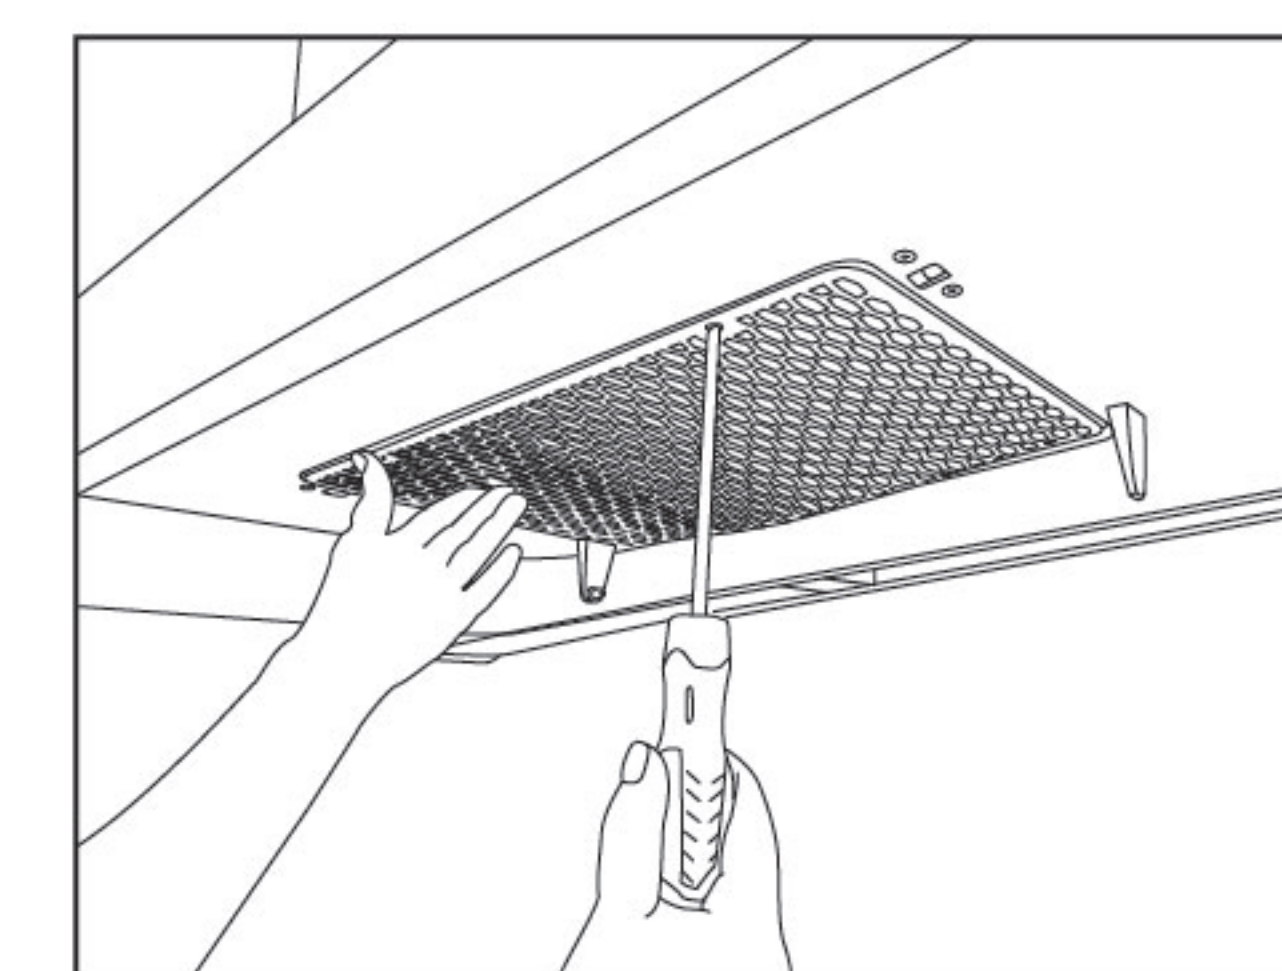
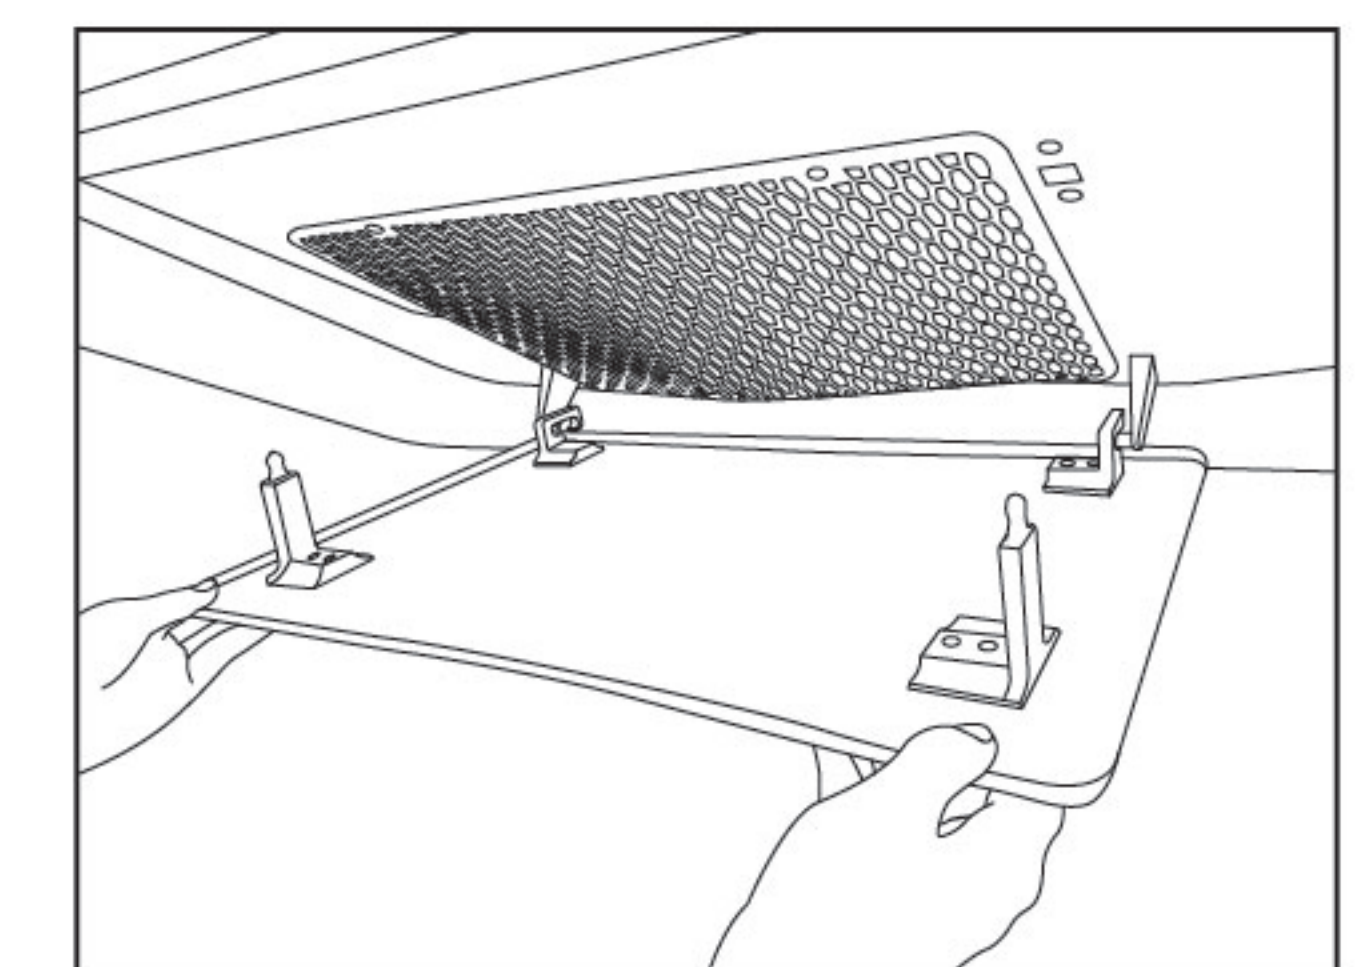
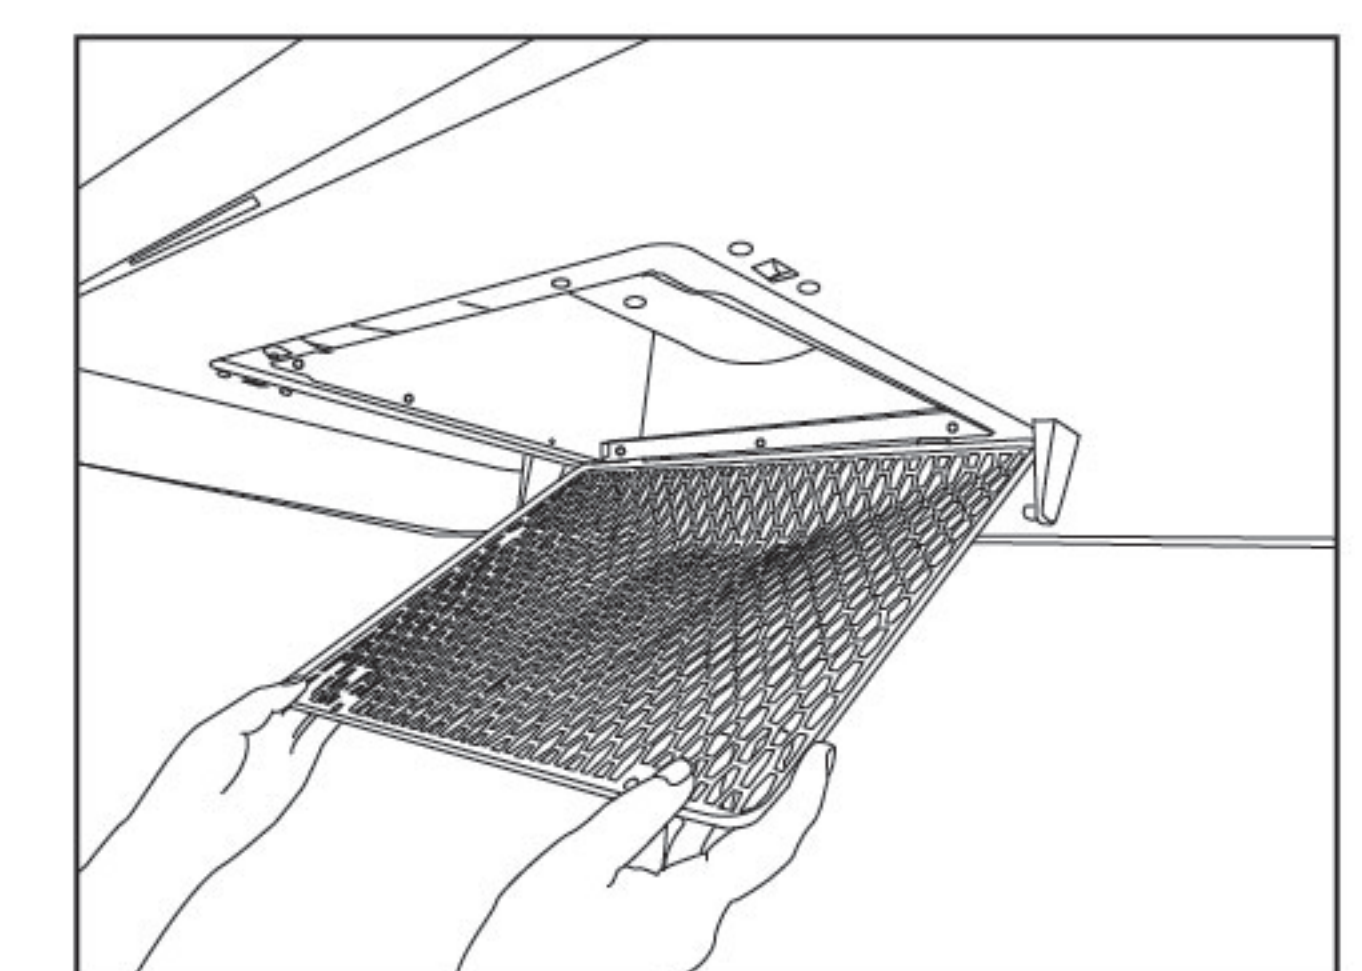

Figure 3
Figure 2
Figure 4
2. First, grasp the front edge of the wing plate with both hands, turn it down to disengage the wing plate locking tab, and then turn it down at a certain angle, take down the wing plate (Figure 2), then hold the air intake hood with left hand, loose the two screws fixing the air intake hook with right hand by using cross-head screwdriver (Figure 3), take down the air intake hood (Figure 4), soak the oil cup, wing plate and air intake hood in warm water containing neutral detergent, and clean them with soft brush;